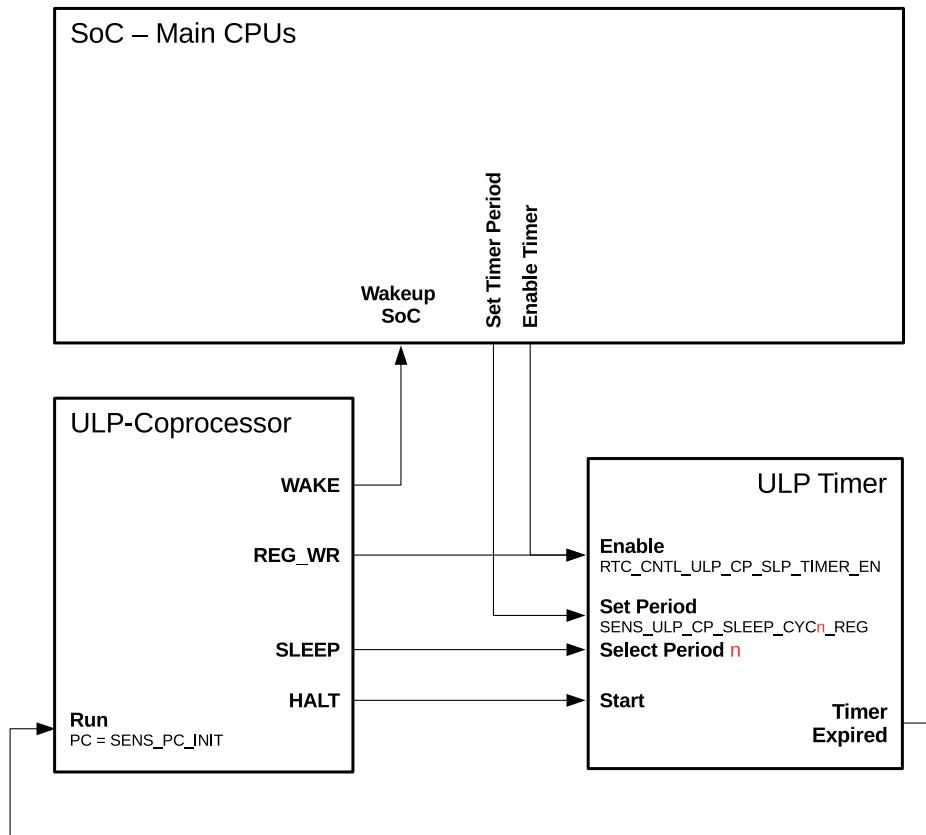

Figure 30-19. Control of ULP Program Execution
The ULP coprocessor puts itself into sleep mode by executing the HALT instruction. This also triggers the ULP timer to start counting RTC\_SLOW\_CLK ticks which, by default, originate from an internal 150 kHz RC oscillator. Once the timer expires, the ULP coprocessor is powered up and runs a program with the program counter (PC) which is stored in register SENS\_PC\_INIT. The relationship between the described signals and registers is shown in Figure 30-19.